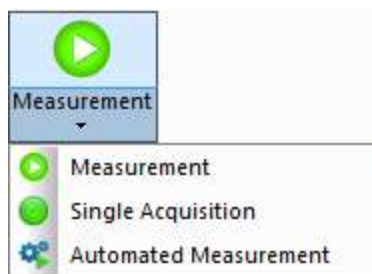

Figure 11: Measurement Buttons
11. Click the Measurement button on the Ribbon (see Figure 11) and then select Measurement.